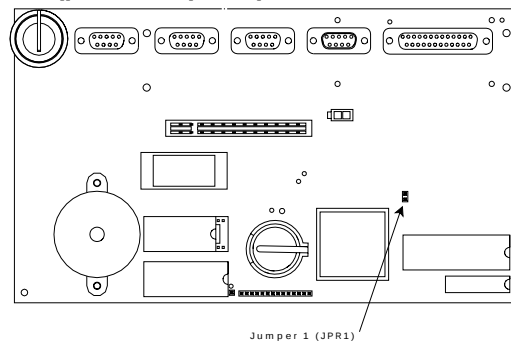

Figure A-1. Processor board jumper 1 (JPR1) location
6. Locate jumper 1 (JPR1) on the processor board. (Refer to Figure A-1 on page A-2 for the jumper location.)